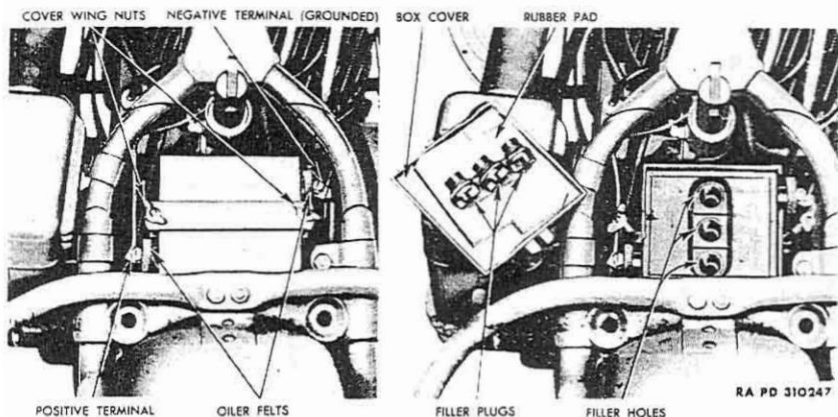

Figure 74—Battery Box Open and Filler Plugs Removed for Service
b. Check Electrolyte Level (fig. 74).
(1) Raise saddle and bar assembly after releasing and removing swivel pin.
(2) Loosen wing thumb nuts on box top hold-down studs sufficiently to disengage bracket slots, then lift off box cover.
(3) Remove the three filler plugs. Check and/or adjust electrolyte level. See that electrolyte level is $\frac{5}{16}$ inch above plates. If necessary, bring electrolyte to that level, using clean, drinkable water.
(4) Clean top of battery before installing box cover.
(5) Clean terminals or posts, if corroded. Make sure that the felt washers are on posts and are saturated with engine oil.